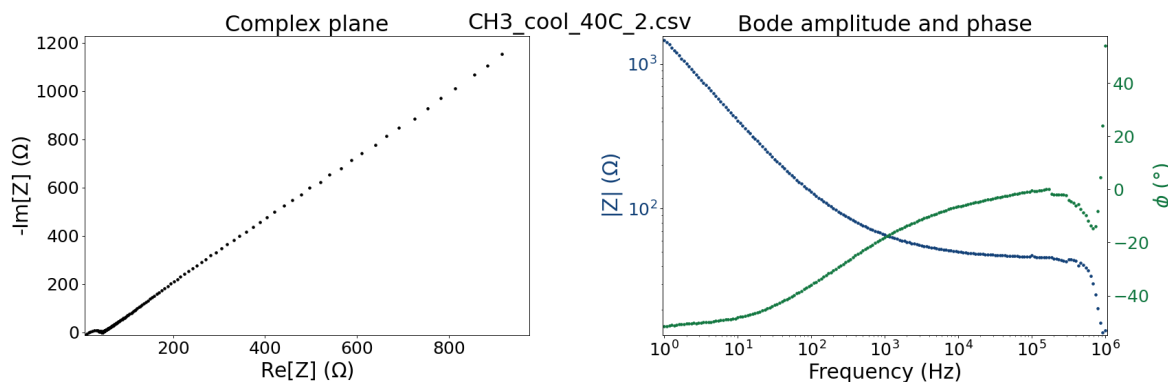

Figure 15: Impedance spectrum of $\text{RbOH} \cdot x\text{H}_2\text{O}$.
2. Go to **File>Load data...** and navigate to the `examples` folder (`path_to_decim/DECiM/examples`). Go to `RbOH_xH2O`. Change the **Text files** option to **All files** and open the `CH3_cool_40C_2.csv` file. The data should now appear in the main DECiM window, looking like Figure 15.